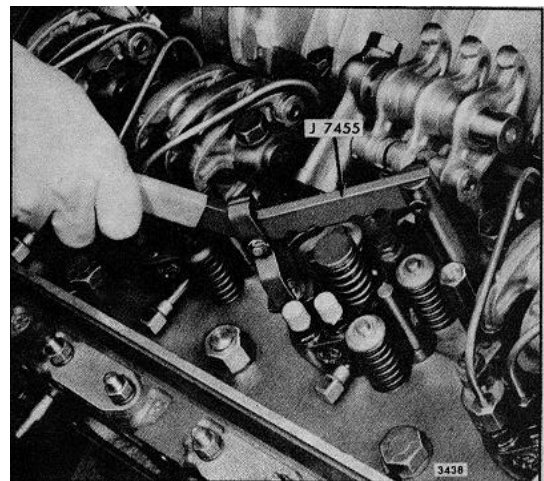

FIG. 4 - Removing Exhaust Valve Spring (Four-Valve Head Shown)
7. Thread the valve spring compressor adaptor J 7455- 7 into the rocker arm bracket bolt holes in the cylinder head (Fig. 4). Then compress the valve spring and remove the two-piece tapered valve lock.